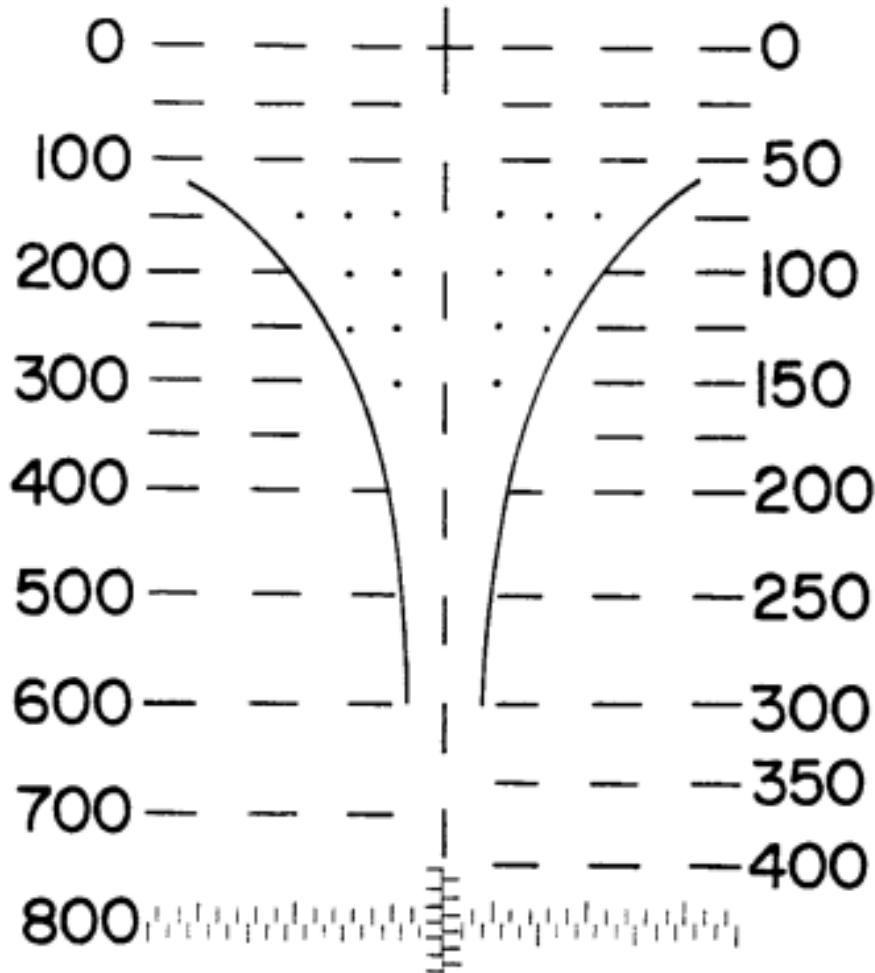

Figure 3.1 Sight reticle, M103A1 sight.
a. The M103A1 sight (fig 3.1) is a modified version of the standard M103 sight. The modification has been made to the right side of the sight reticle and is to be referred to only when firing the XM591 round. The value difference of the range line has been made so that it matches the trajectory of the XM591 round.